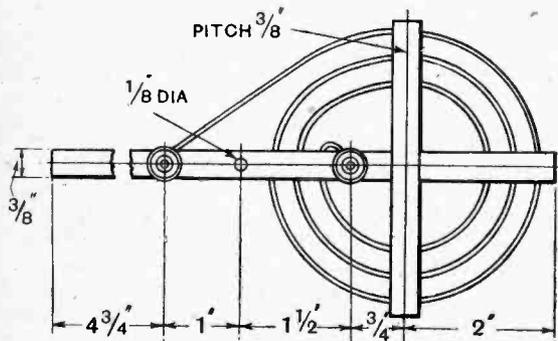

Fig. 6.—The "fixed-tune" aerial coil.
Fig. 6.—DETAILS OF ASSEMBLY. (A) Anode condenser; (B) and (C) Terminals of condenser; (D) Junctions between sections; (E) 1/4 in. ebonite end plates; (G) and (F) Brass clamping brackets and rods; (H) Nuts on ends of rods for attaching condenser; (I) Oscillator valve holder; (J) Oscillator valve filament resistance; (K) Grid condenser; (L) Wire wound grid leak; (M) Ebonite spacers; (N) Holding down nut; (O) Grid circuit tuning condenser; (P) Keying terminals, bridged for telephony; (Q) Modulating choke, held down by strap; (R) Grid cells.
The construction of the three-turn aerial coupling coil should be clear from the sketch in Fig. 6, as it consists merely of an ebonite support pivoted on one of the formers of the stator. The pivot for the coil is a 1 in. length of 4 B.A. rod tapped into one of the stator formers remote from the dial. The coil is lifted free from the variometer by a spring washer, and is held in position by locknuts.